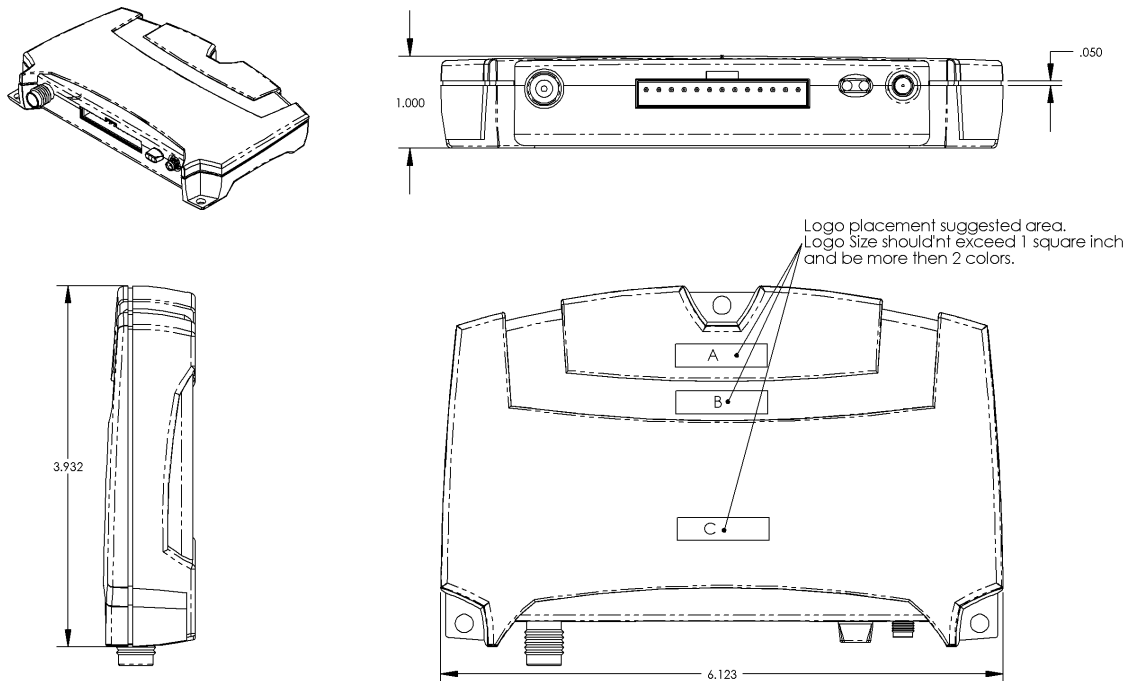

Figure 5 – LoCate Housing Layout
- 3) Two silver labels shall be fixed to the underside of the LoCate housing during manufacture. The top label shall include the Barcode information as detailed in paragraph 4.3 below. The label below shall contain the FCC certification information. Refer to Figure 5 in paragraph 4.1.
- 5) A label containing the LoJack Corporation company logo shall be pad printed in the top left-hand corner of the upper side of the LoCate housing. Refer to Figure 5 in paragraph 4.1.